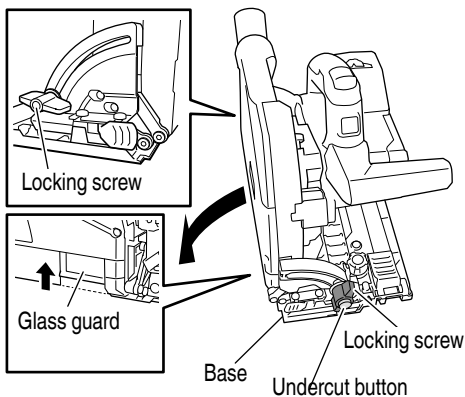

Fig. 18
2. Slanting saw blade for diagonal cuts (Fig. 18)